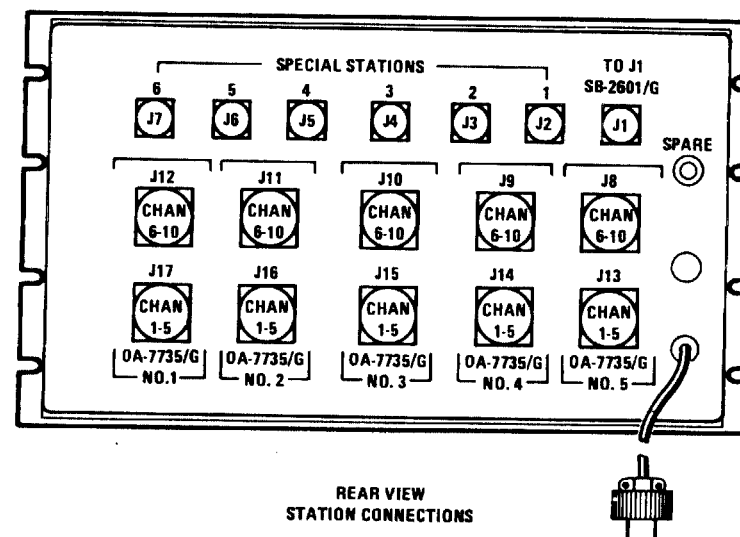

Figure 7-5. Location Diagram, Radio Intercept Control Switchboard SB-2602/G
(1) The location diagram for the RICS is shown in figure 7-5. There are ten transfer channels and six special stations which indicate the corresponding switches and relays. Location of power supplies No. 1 and No. 2 components, blinker board, and AMP 1 through AMP 4 boards are